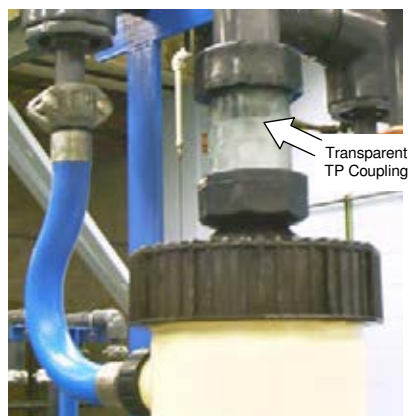

FIGURE 5.9 – THE TRANSPARENT TP JOINT COUPLING
3. While the second **Integrity Test** is underway, closely observe the transparent TP joint coupling (see Figure 5.9) at the top of each module. If the integrity of a module has been lost, small bubbles appear in the clear coupling.